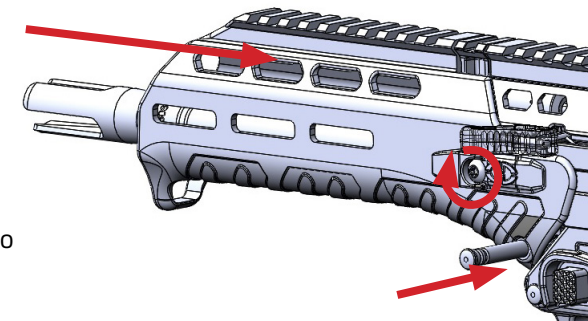

Fig. c-1
1. Install the handguard on the MDR by sliding it over the barrel assembly, Desert Tech logo end first, with the rail at the 12 o'clock position. (Fig. c-1)
2. Push the captured handguard retention pin through from the left side to the right side of the MDR receiver until it snaps into position, flush on each side. (Fig. c-1)
3. Tighten handguard retention screws with a torque wrench, using a T25 head, to 30 in/lb. (Fig. c-1)